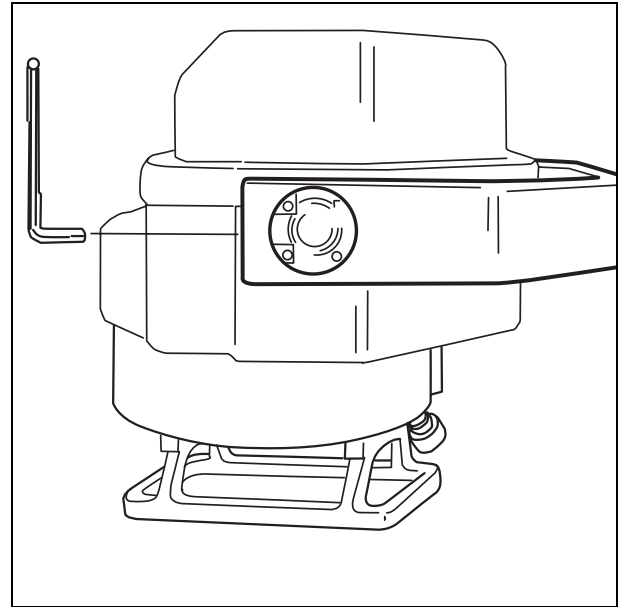

Fig. 8
- Tighten or loosen the friction adjustment (one on each side of the fork) (Fig. 8).